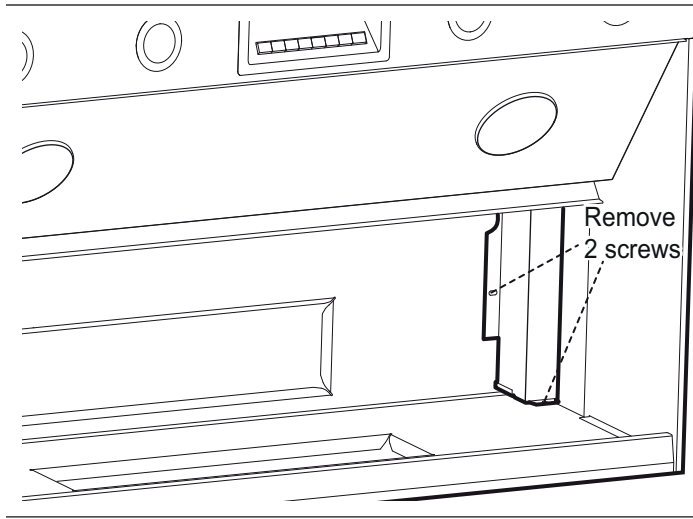

Figure 14: Junction Box Channel
1. Remove junction box channel covering the wires (see *Figure 14* on page 11).
1. Remove junction box channel covering the wires (see *Figure 14 on page 11*).
2. Remove circular knockouts (*Figure 14 on page 11*).
- Spring type wire nuts, rated for a minimum of two (2) #18 gauge wires and maximum of four (4) #14 gauge wires, UL & CSA rated to 600V and 302°F (150°C).